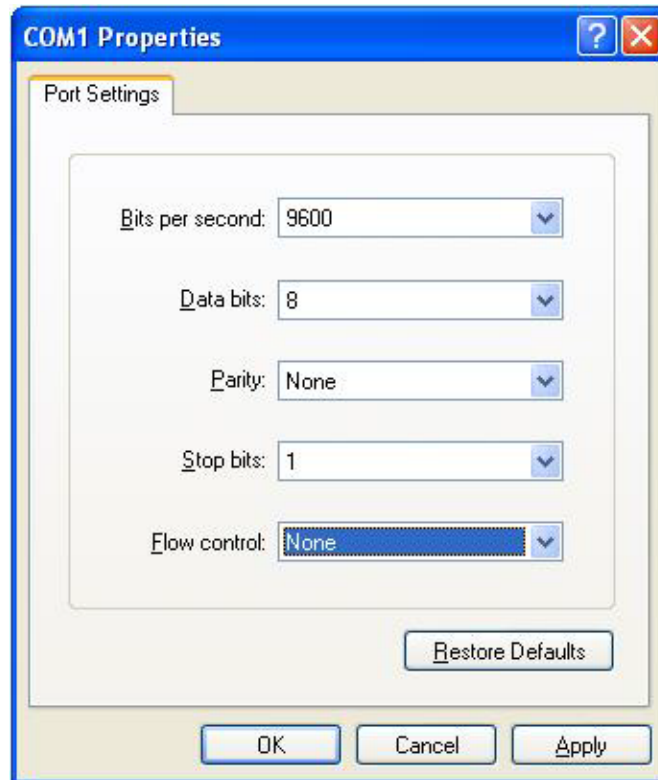

Figure 20 - COM Port Settings
- 4 In the COM Properties window, configure the COM port (See Figure 20):
3. In the COM Properties Dialog, enter the “Port Settings”. Select Apply. Select OK (Figure 20, HyperTerminal COM Port Settings).